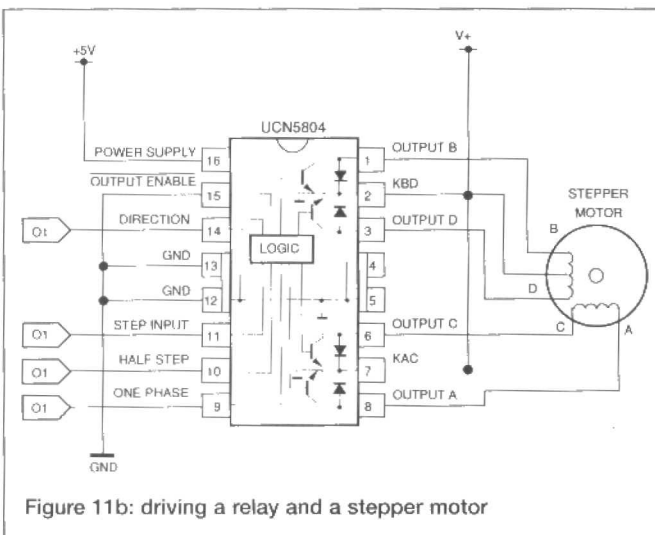

Figure 11b: driving a relay and a stepper motor
Figure 10 shows how the data logger can be used for robotics applications. Signals from various sensors (S) are fed into the data logger. Three digital outputs are used to control a linear motion stepper motor and another output controls a relay. Figure 11b shows a stepper motor driver using an UCN5804 IC.